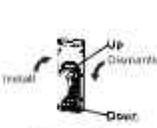

Figure 1
1. Push down the spring piece of the top lint filter to make the claws out of the filter cover, and then pull out the lint filter to get it down. (figure 1)